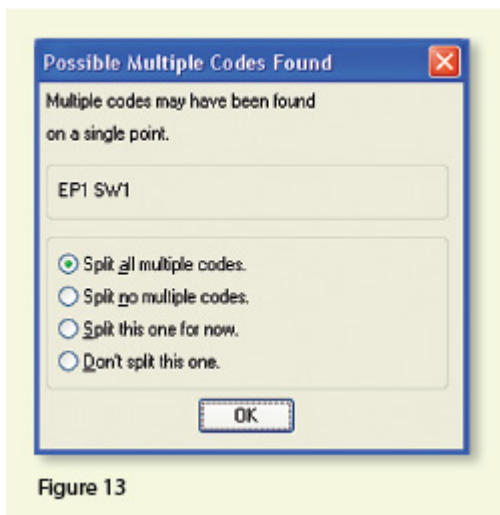

Figure 13
- If you select “All,” any point description that contains a space will be processed as a multiple point code. If you select “None,” all spaces will be ignored when it comes to processing multiple point codes. If you select “Prompt,” you will be prompted with the dialog box from **Figure 13** each time a space is encountered in a point description.